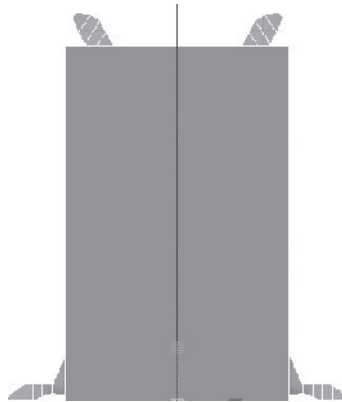

FIGURE 3.57 Polygon sack scaled to match the reference image.
21. Press the 5 key to change the cube to Smooth Shade All mode, as shown in Figure 3.57.